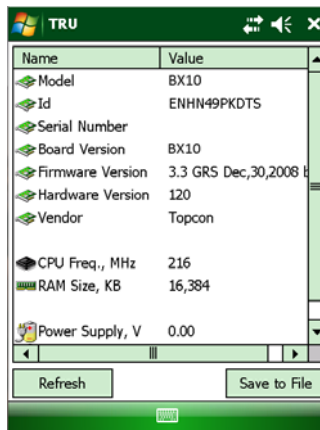

Figure 4-3. TRU – Receiver Info Window
4. In the TRU main window, click the **Information** icon. The **Receiver Info** (Figure 4-3) window appears.